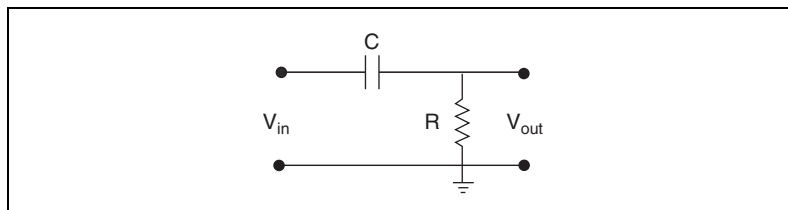

Figure 4-29. Simple RC Highpass Circuit
Figure 4-29 shows the transfer function of a simple series circuit consisting of a resistor (R) and capacitor (C) when the voltage across R is assumed to be the output voltage (V_m).
Using the circuit shown in Figure 4-29, you can use a two-component circuit to build a simple RC filter with an analog input.